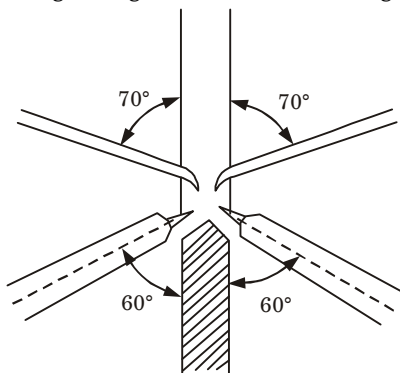

Fig. 6.
1. Aluminium welding by double operator method as shown in Fig. 6.